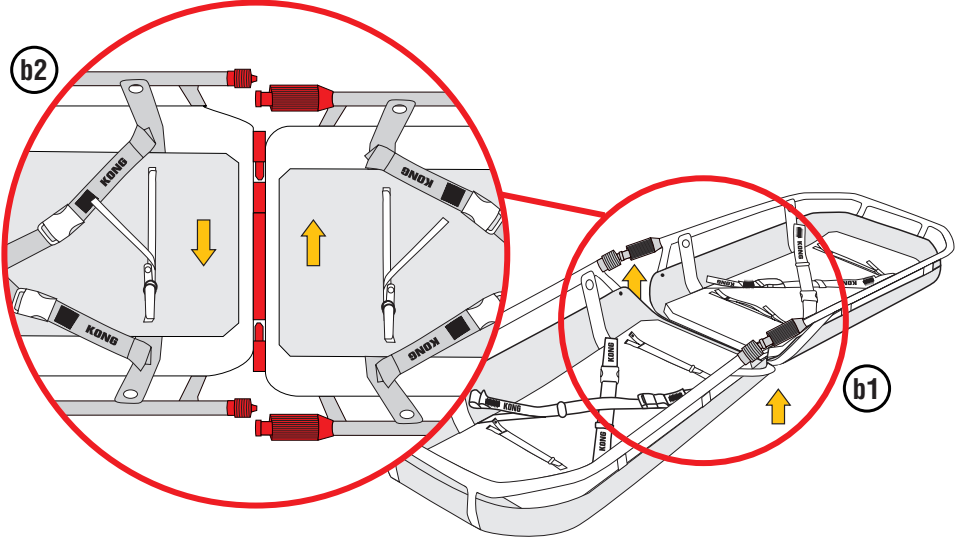

Fig.8
b) lift the two parts centrally and insert the pins into the cylinders (fig. 8),